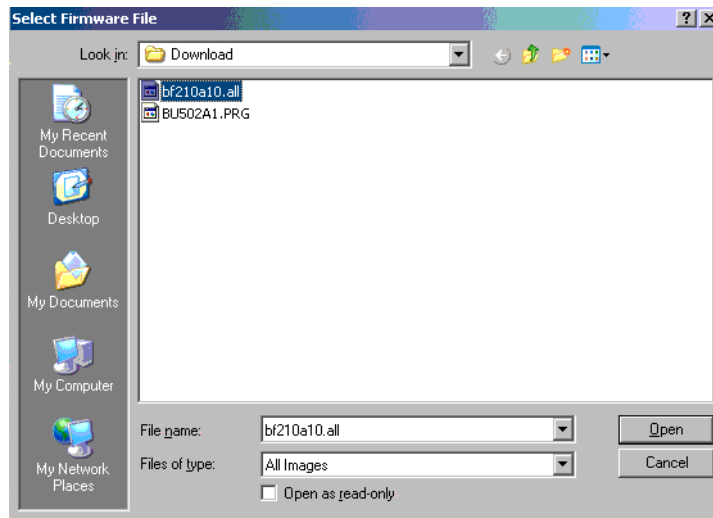

Figure 24-41 Emulex - HBAnyware - Select Firmware File
10. Navigate to the extracted firmware file, select the firmware image, and click **Open** (Figure 24-41).